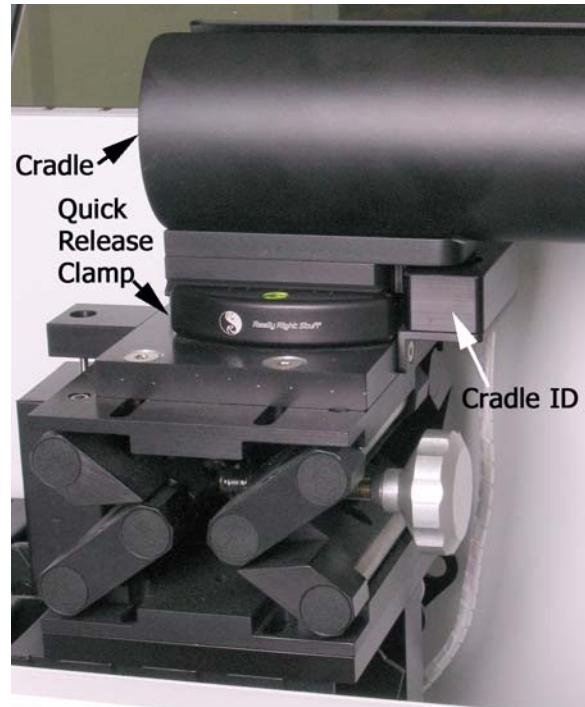

Figure 8-2
2. Clean the Height Adjustment Stage and Cradle(s) with a lint-free cloth lightly dampened with soap water or denatured alcohol. Be sure to clean all animal waste from the Stage and Cradle(s). Grease the Stage scissor jack components. (Figure 8-2)